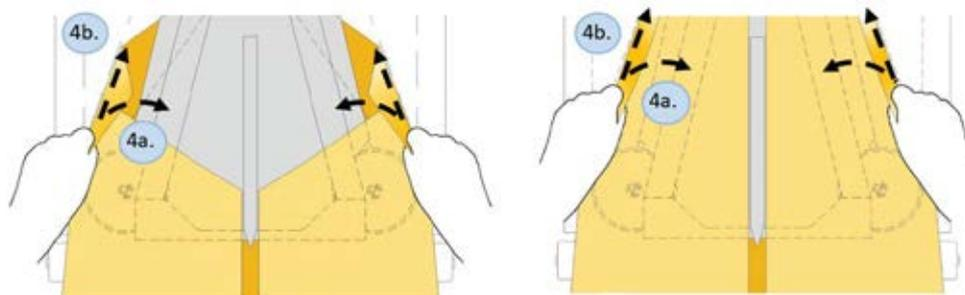

Figure 18 Guide Paper onto Pre-Former - Step 2
- a. **Step 1:** Guide the paper onto the pre-former (refer to Figure 18).
- c. **Step 3:** Turn on the Auto Load Function (refer to Figure 18).